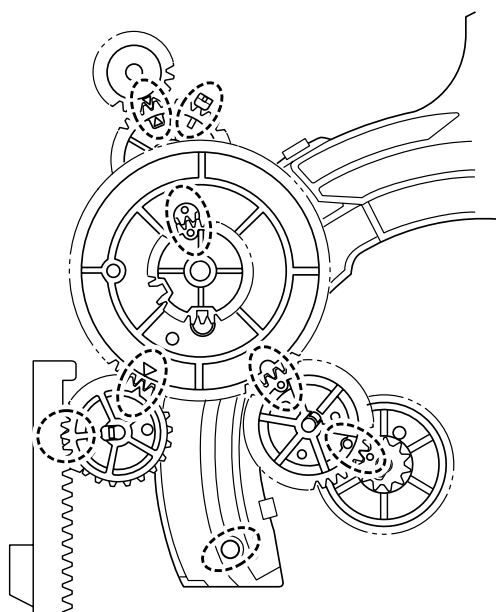
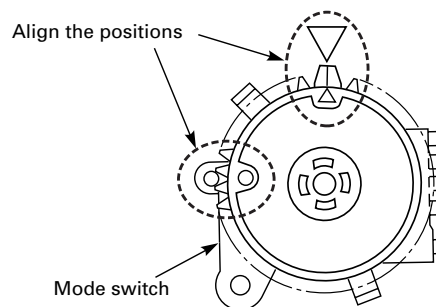
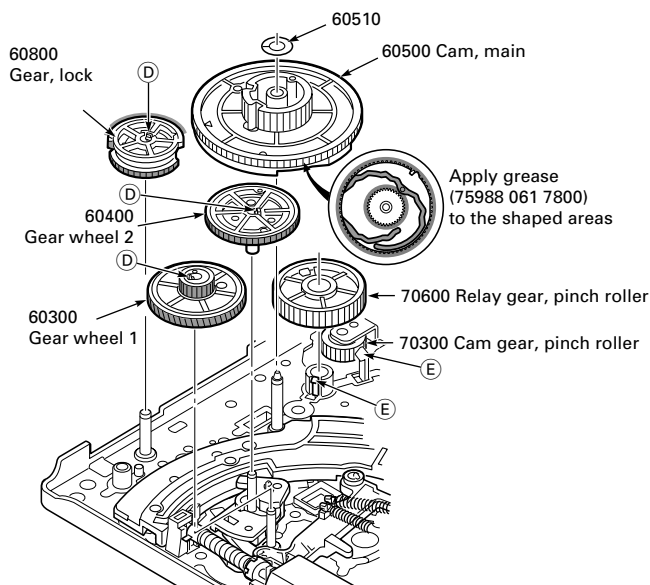
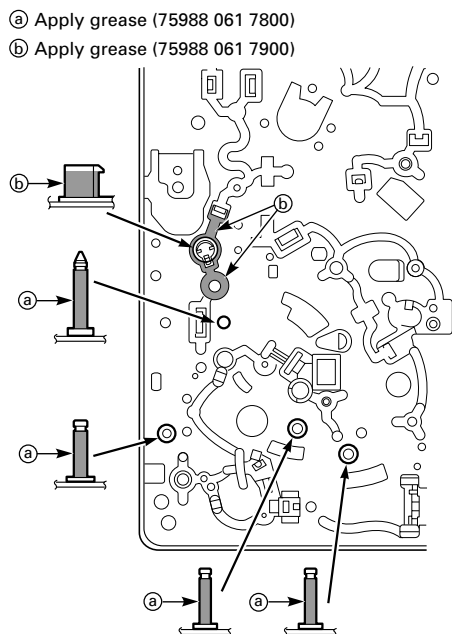

Fig. 8.1
Fig. 8.2
Fig. 8.11
Fig. 8.12
The drive mechanism is to be built in exclusively in the Eject position. For this position all gear wheels, levers and the mode switch S3500 as they are in Eject mode (Fig. 8.1 and 8.2).
- Disengage the clamp ① and pull off the lock gear (60800) of the cassette mechanism, gear wheel 2 (60400) and gear wheel 1 (60300, Fig. 8.11).
- Remove the retaining washer (60510) and the main cam (60500, Fig. 8.11).
- Disengage the clamp ② and pull off the pinch roller relay gear (70600, Fig. 8.11).
Note: When reassembling position the gear wheels (60300, 60400, 60500, 60800, 70600 and 70300) and slides (60600 and 0600) as they are in **Eject** mode (Fig. 8.1, Fig. 8.2 and Fig. 8.11).
- Always use the types of grease with part numbers **75988 061 7800** and **75988 061 7900** for lubricating the driving system of the cassette mechanism and the crescent slide and follow the lubrication instructions given in Fig. 8.11 and Fig. 8.12!